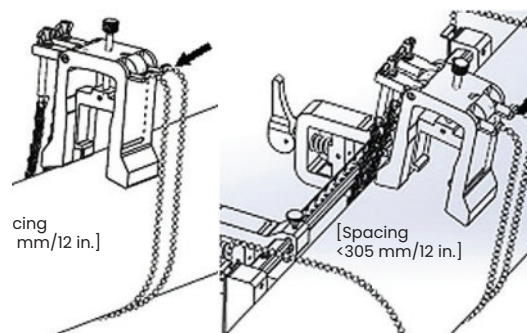

Figure 27: Yoke chains secured
3. Wrap the yoke chains around the pipe and secure them to the yoke bracket, as shown in Figure 27 below.